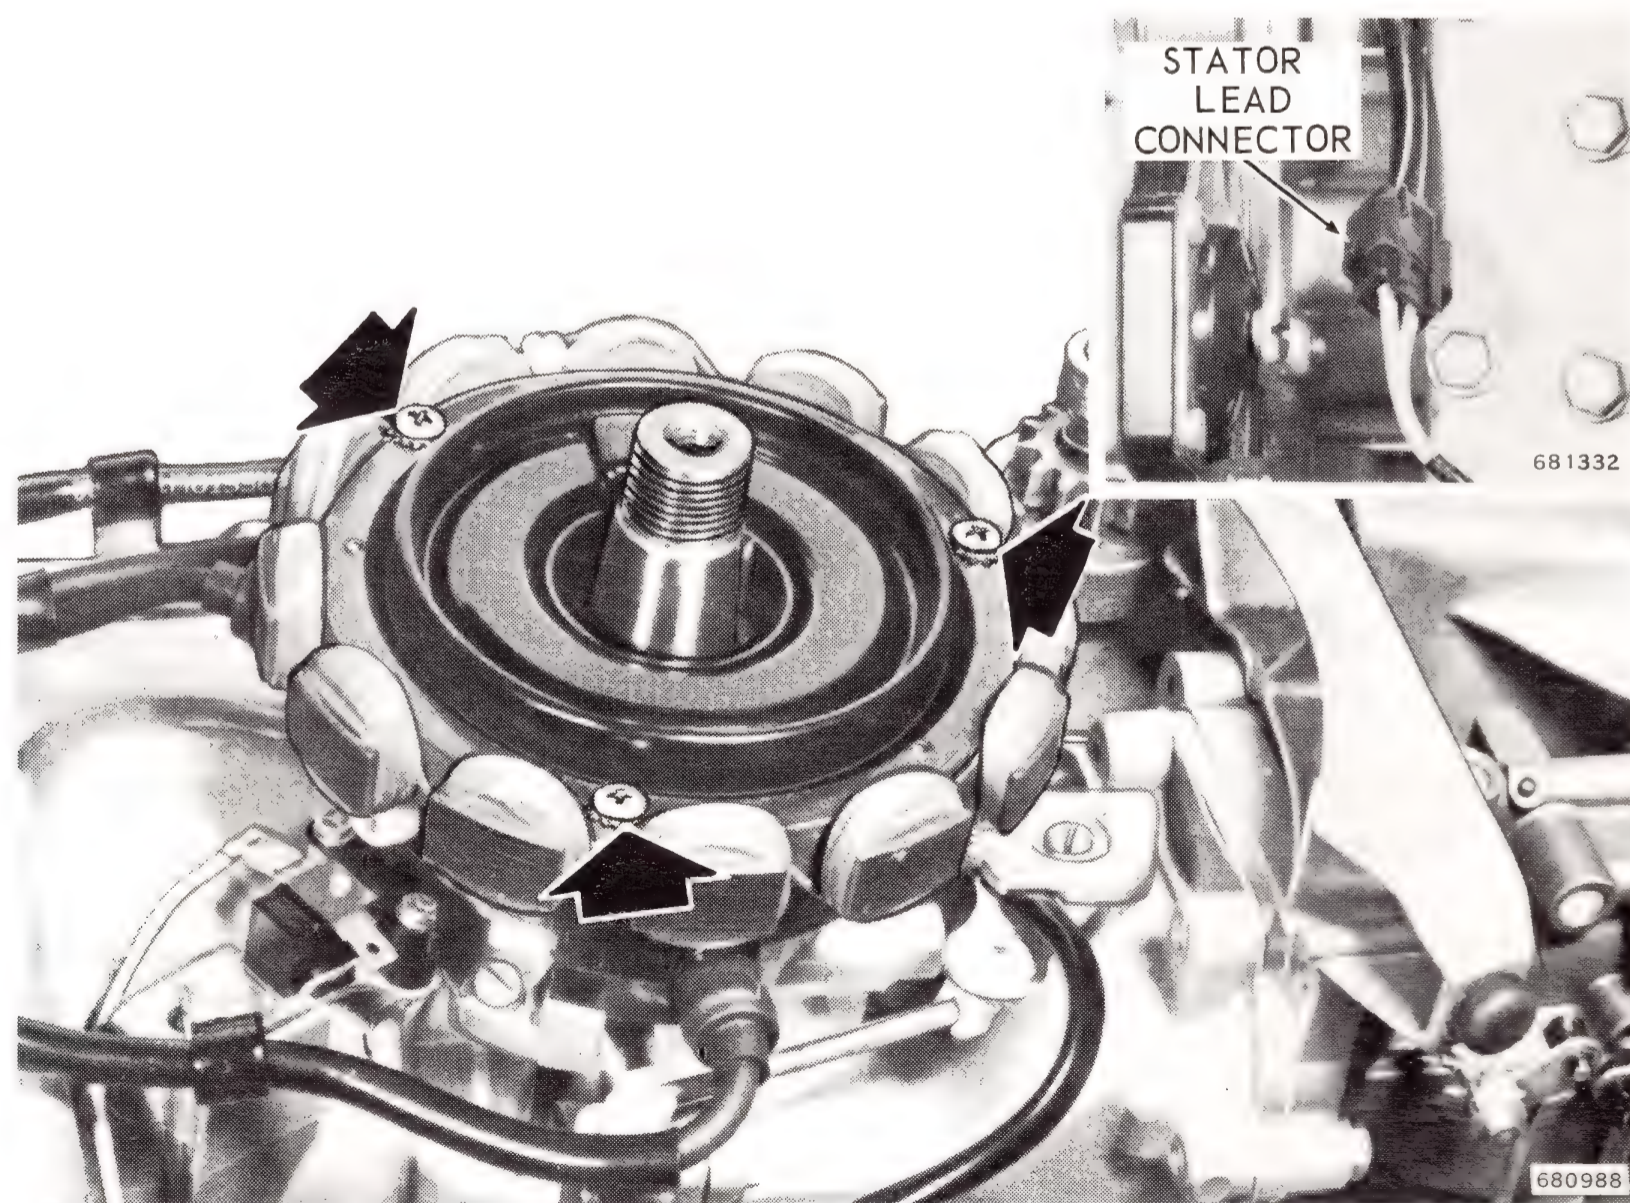

Figure 7-16. Removing Alternator Stator
- b. Disconnect stator lead. Remove three screws and lift stator from power head. See Figure 7-16.